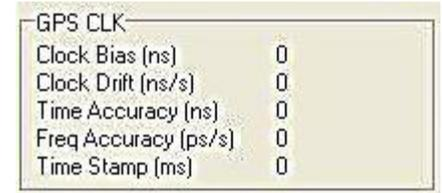

Figure 14. GPS CLK Section
5.4 GPS_CLK - This section displays the GPS clock solution (Figure 14). The message ID for the GPS_CLK message is "23." Each piece of information is detailed below.